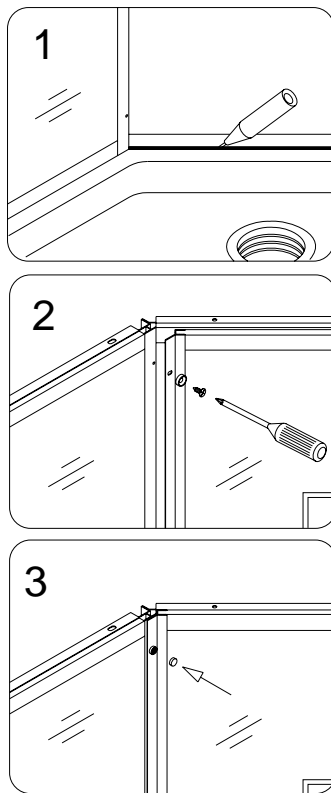

Fig. 18
23. Apply silicon along the bottom **Fixing bracket (19)** See Fig 18 (Image 1). Attach the **Control panel (01)** to the **Rear Left and Right stationary glass** panels with **Flat head screws ST4.2x10 (10)**. Cover exposed screw heads with **Decorative covers (14)**. See Fig 18 (Image 2-3) for details.